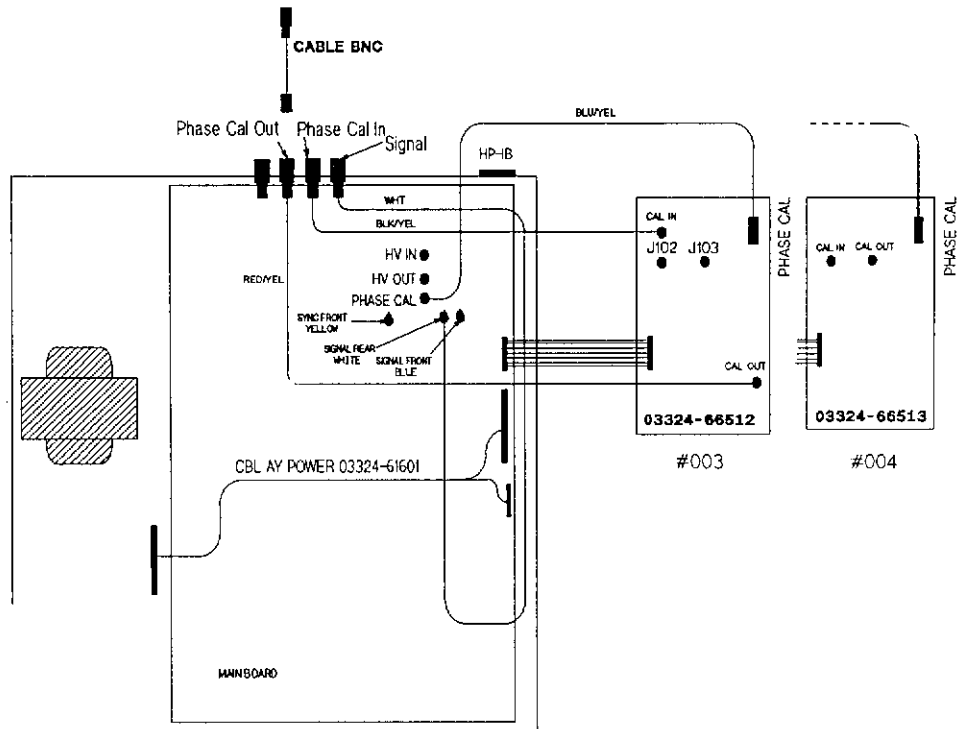

Figure 2-7. Phase Calibration Option installation
6. Connect the SMB end of the black/yellow sleeved cable to the CAL IN connector on the option board. Refer to Fig 2.7.